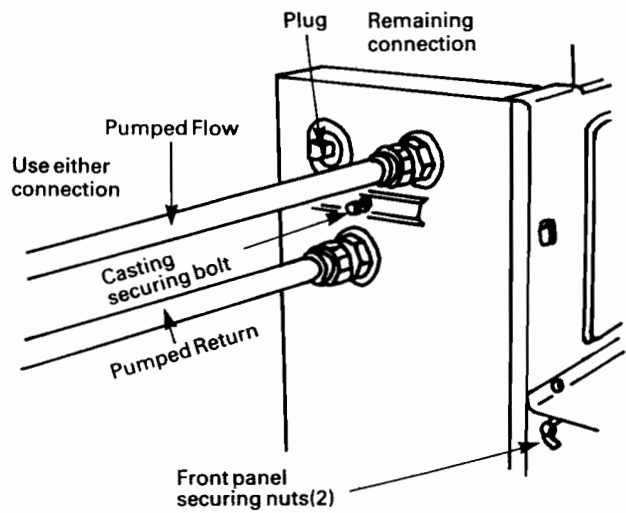

Fig. 6. Fully Pumped System
3. Remove the front panel (Fig. 6). Transfer the thermostat pocket blanking disc to the right hand hole.
6. Remove the casting securing bolt at the left hand side (Fig. 6).
7b Fully Pumped Systems The flow and return connections to the boiler to be as follows (Fig. 6).